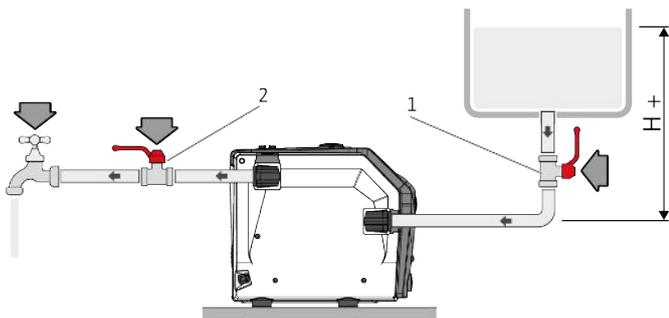

Fig. 9: Load operation
- Fill the product with water (approx. 1.5 l) until the water comes out of the aeration opening (Fig. 9).